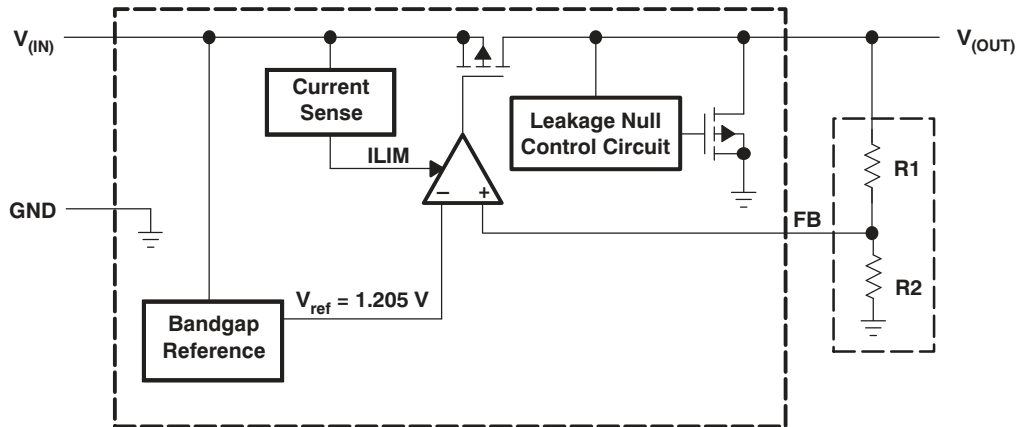

Figure 1. Functional Block Diagram—Adjustable Version
(1) Minimum $V_{IN} = V_{OUT} + V_{DO}$ or the value shown for *Input voltage* in this table, whichever is greater.
(2) See Figure 1. The TPS715xx family employs a leakage null control circuit. This circuit is active only if output current is less than pass FET leakage current. The circuit is typically active when output load is less than $5\ \mu\text{A}$, V_{IN} is greater than 18 V , and die temperature is greater than $+100^\circ\text{C}$.